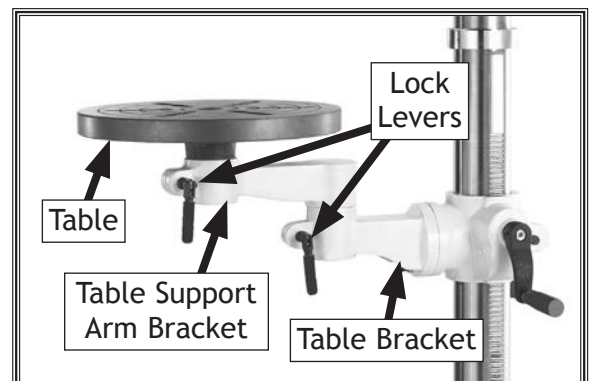

Figure 17. Model W1670 table assembly.
14. **W1670 Only:** Install the table support arm bracket onto the table bracket, then install the table and tighten lock levers to secure (see **Figure 17**).